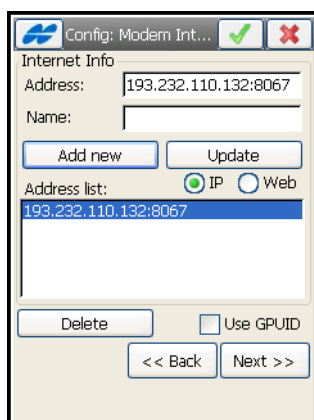

Figure 4-38. Modem Internet Info
4. If connecting to the *Controller*, use the *Dialup Network Connection* for connecting to the Internet to get correction data. Tapping **Next** displays the **Modem Internet Info** screen (Figure 4-38 on page 4-34).